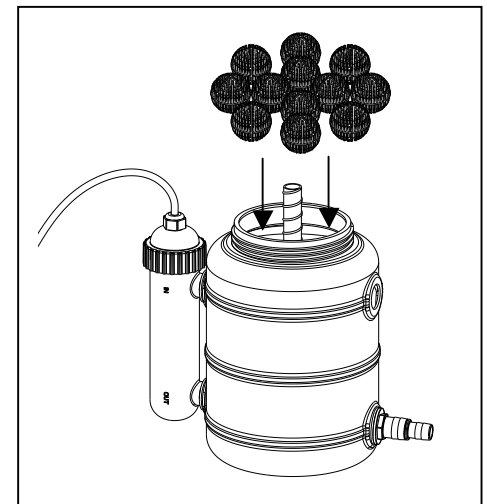

Fig. 3
3. Place the bio-balls inside the filter. Fig. 3